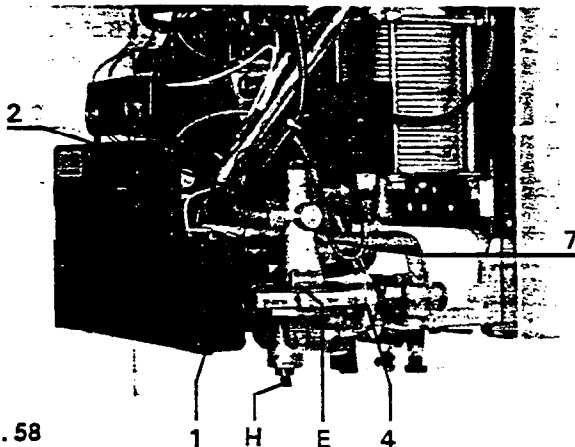

Fig. 58
- c) Isolate mains water supply - drain from valve beneath the change over valve (see section 8.11 fig. 58 (H)).